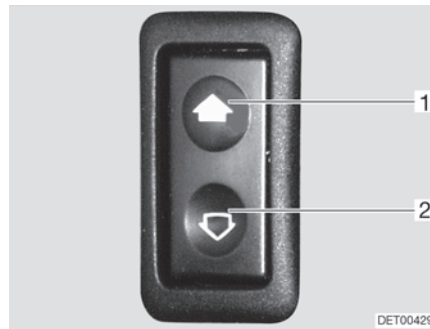

Fig. 26 Switch for electrical window winder
- Press the lower part (Fig. 26,2) of the switch.
- Press the upper part (Fig. 26,1) of the switch.